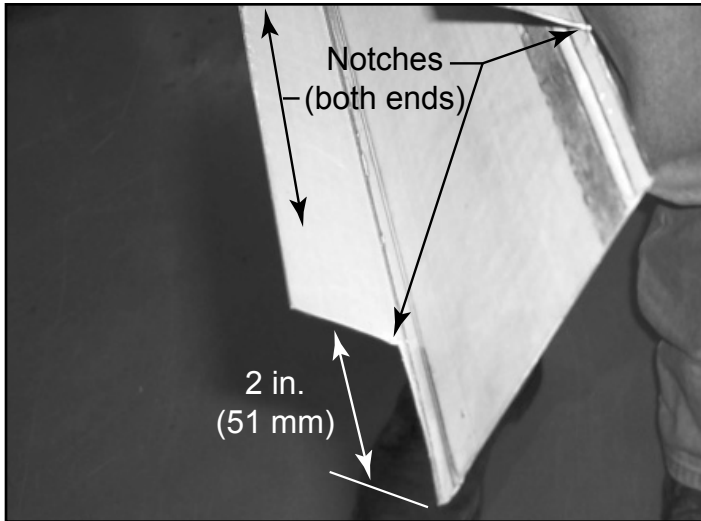

Figure 12.12 Notch the Metal Track
- Notch each end of the track 2 in. (51 mm). See Figure 12.12.